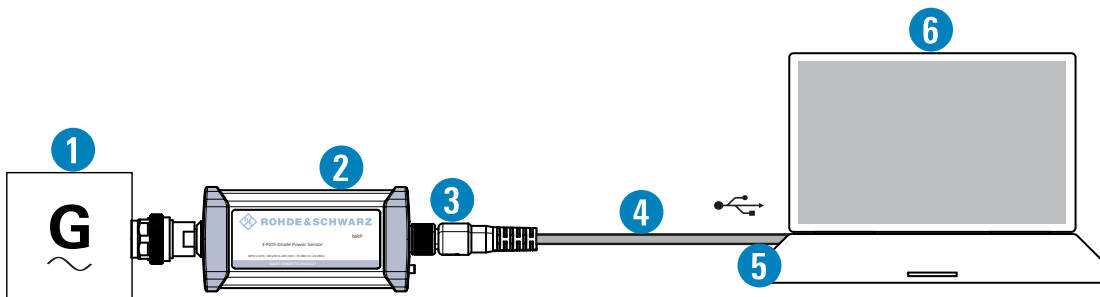

Figure 4-1: Setup with an R&S NRP-ZKU cable
1. Connect the cables as shown in Figure 4-1 :